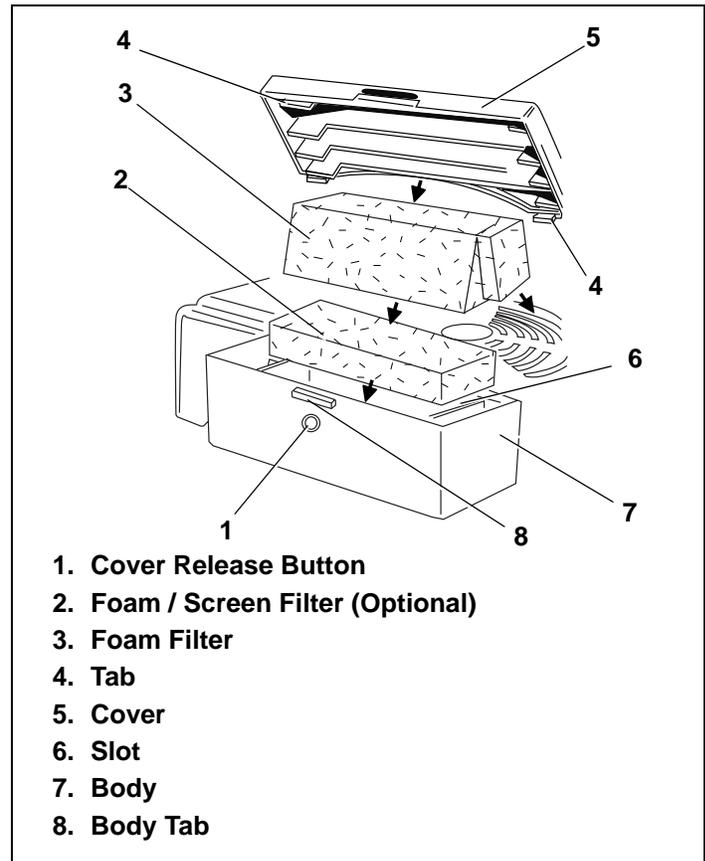

Figure 48. Air Cleaner Type “A” Assembly
Your engine has an air cleaner which helps prevent premature engine wear and failure. NEVER run engine without complete air cleaner installed on engine. Your air cleaner periodically needs to be cleaned or replaced. Your engine will be equipped with one of the following air cleaners; Type A, B, C, D or E. Follow instructions for the air cleaner type that resembles your model. See Figures 48 thru 52 starting on page 19. Afterward, continue reading instructions below.
1. Press cover release button and lift cover upward. See Figure 48.